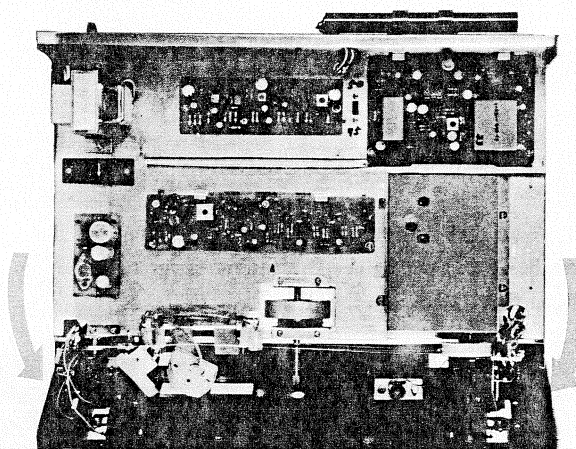

Fig. 2-10 Front subchassis removal (2)
3. Unhook the dial pointer from the subchassis. Now the front subchassis can be tilted forward and down. See Fig. 2-10.